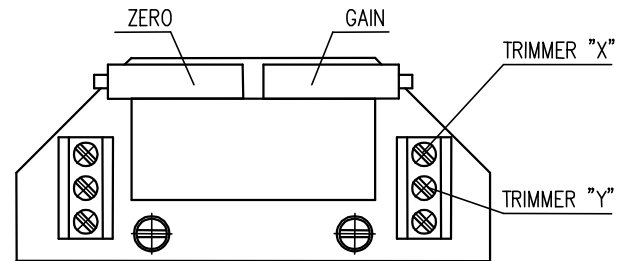

Fig. 5b
4.4.2 EPV – 3-wire version (Fig. 5b,5c)
- Adjust the resistive transmitter according to the previous chapter. The resistance is to be metered on the terminals X-Y (Fig. 5b,5c). The used transmitter resistance is 2000W or 100 W.
- Turn the adjusting trimmer ZERO (Fig. 5b,5c) to adjust the output current signal rate measured on the terminals 81-82 to 0 mA or 4mA.
- Turn the adjusting trimmer GAIN (Fig. 5b,5c) to adjust the output current signal rate measured on the terminals 81-82 to 20mA or 5 mA..